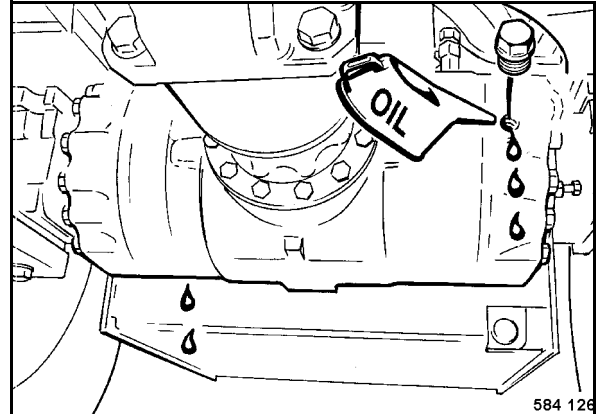

Fig. 66
- Unscrew the oil level inspection plug (Fig. 66) and check the oil level.